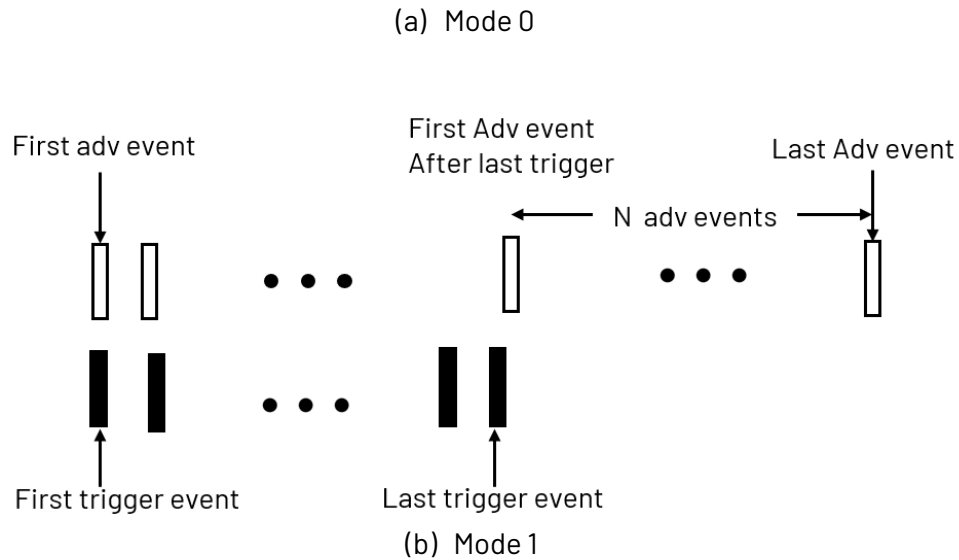

Figure 5 : Trigger modes
- Mode 0: After the event is triggered, the device begins to advertise with the interval specified. The device keeps advertising for a specified number of advertising events regardless the status of the current trigger event, as shown in *Figure 5(a)*. After finishing the specified number of advertisings, the device will stop advertising and remain in sleep forever.
- Mode 1: After the event is triggered, the device begins to advertise with the interval specified. Different from mode 0, during every advertising wakeup, the device checks whether the sensor event is valid. After the last valid trigger event, the device keeps advertising for a specified number of advertising events as shown in *Figure 5(b)*. Advertising will continue until the sensor event is not present. After finishing the advertising, the device will be in sleep forever.